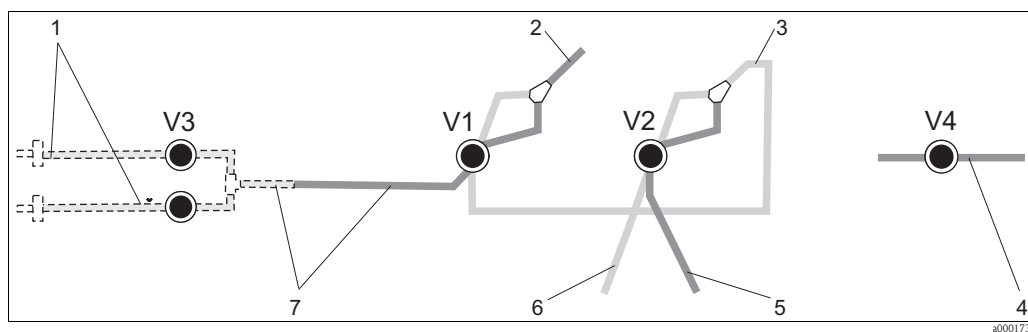

Fig. 24: Valves and valve hoses
4. Install the new pump hoses in the reverse sequence of operations. Ensure that the hoses are connected correctly (→ Fig. 24).